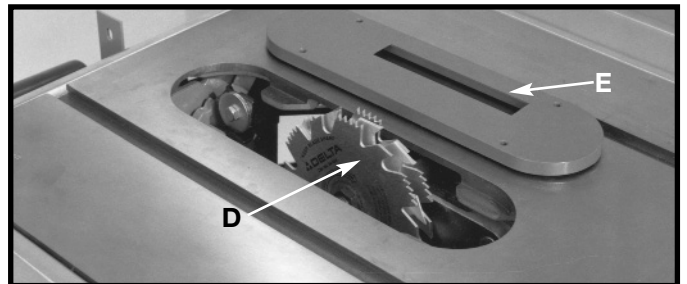

Fig. 56
2. Attach the dado head set (D) Fig. 56, to the saw arbor. **NOTE: THE OUTSIDE ARBOR FLANGE CAN NOT BE USED WITH THE DADO HEAD SET, TIGHTEN THE ARBOR NUT AGAINST THE DADO HEAD SET BODY. DO NOT LOSE THE OUTSIDE ARBOR FLANGE. IT WILL BE NEEDED WHEN REATTACHING A BLADE TO THE ARBOR.**
⚠ WARNING THE ACCESSORY DADO HEAD SET TABLE INSERT (E) FIG. 56, MUST BE USED IN PLACE OF THE STANDARD TABLE INSERT.